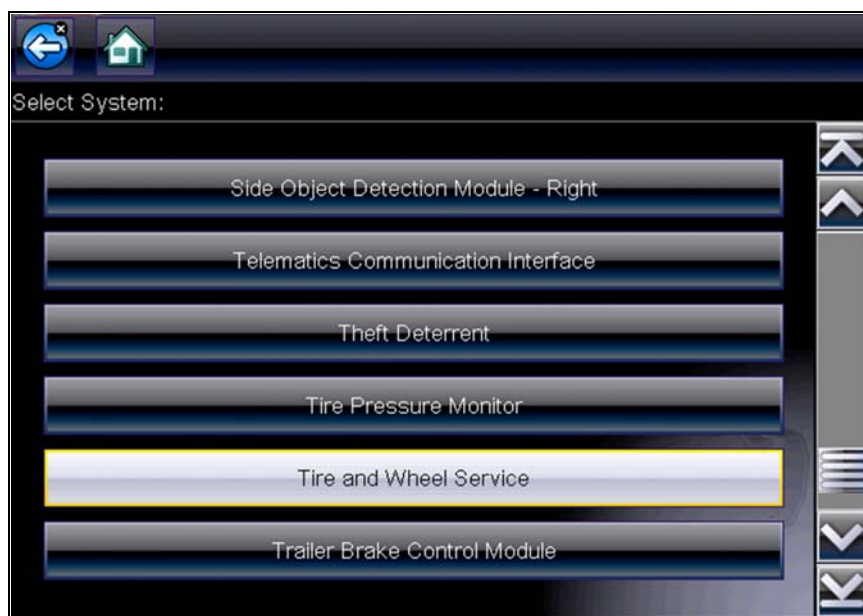

Figure 9-11 Scanner System Menu
- **From within a current Scanner session** - select **Tire and Wheel Service** (or applicable choice) from the System menu (Figure 9-11), then proceed to Step 3 below.